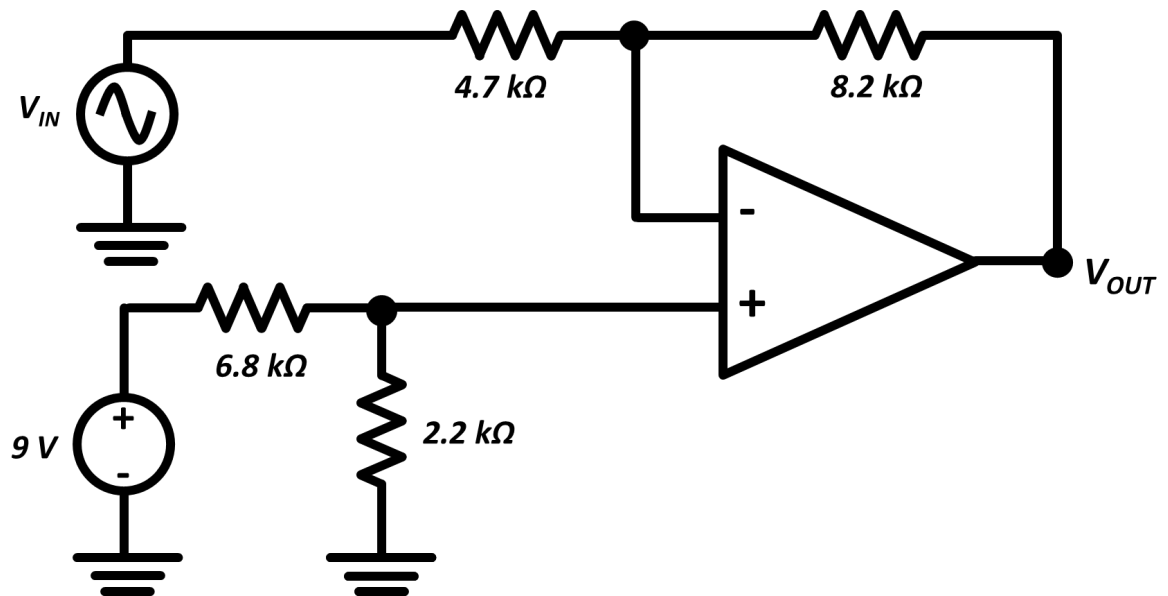

Figure 4
- (A) 1.5 V
- (B) -1.5 V
- (C) -3 V
- (D) 3 V
11. Calculate the value of V_{OUT} in Figure 4. The op-amp is supplied with a dual power supply of $\pm 8\text{ V}$.